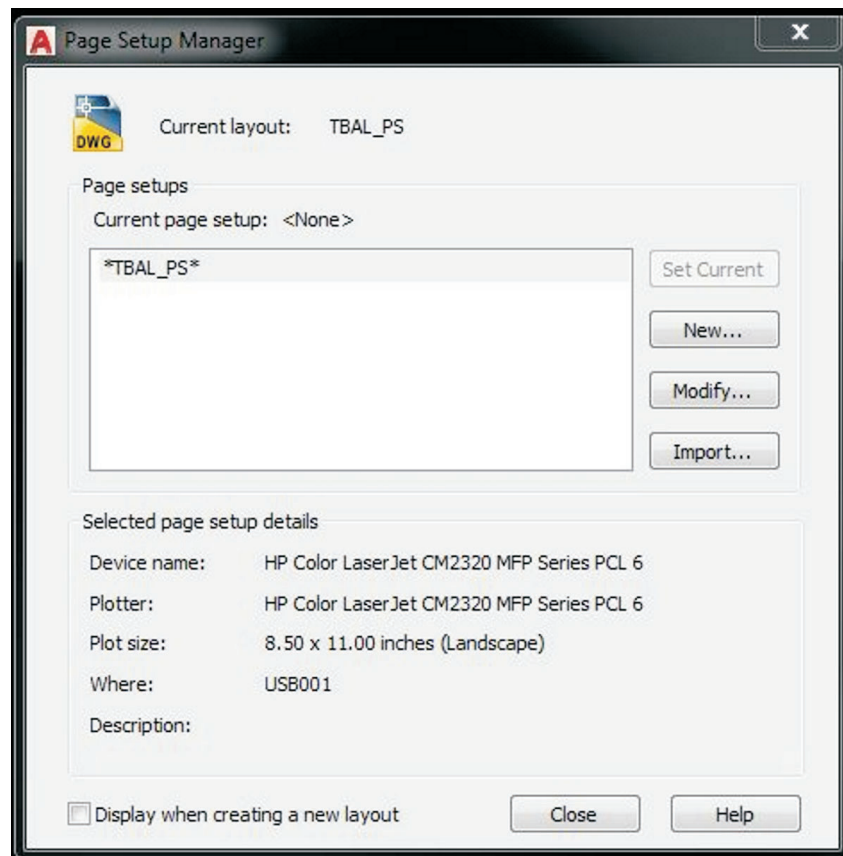

FIGURE 16. AutoCAD's 'page setup manager dialog box' is shown here. (AutoCAD screen shot reprinted with the permission of Autodesk, Inc.)
- ◆ Setup the right side of dialog box. [See FIGURE 16.]
- ◆ Select the OK button to return to 'page setup manager. [See FIGURE 16.]